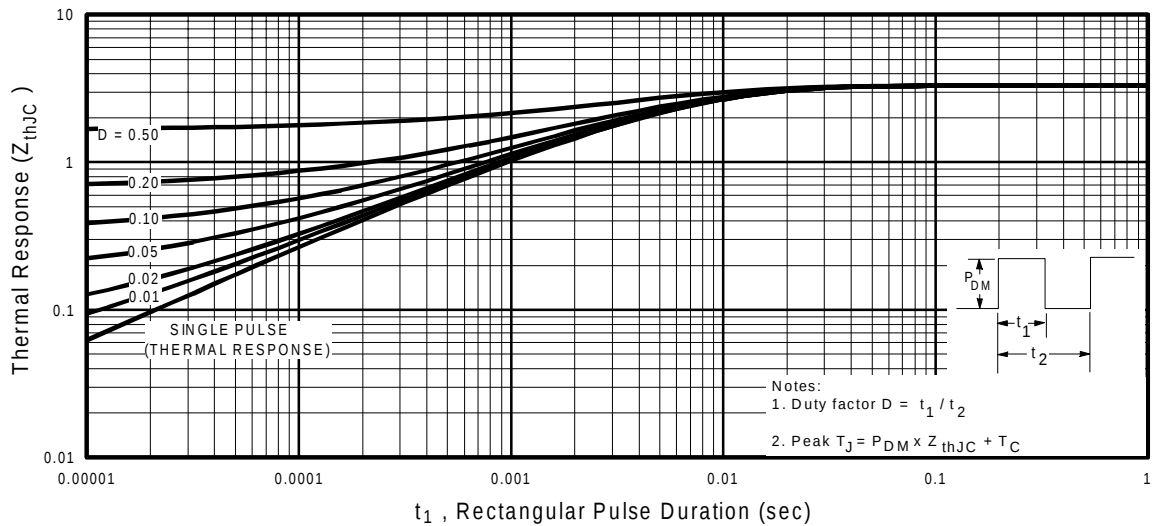

Fig 11. Maximum Effective Transient Thermal Impedance, Junction-to-Case
① Repetitive rating; pulse width limited by max. junction temperature. (See fig. 11)
④ Pulse width $\leq 300\mu s$; duty cycle $\leq 2\%$.
② Starting $T_J = 25^\circ\text{C}$, $L = 3.7mH$